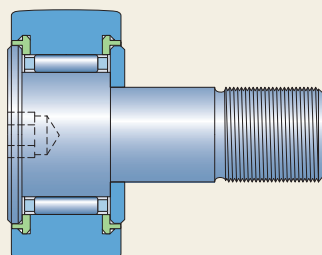

Fig. 8
- are based on double row full complement cylindrical roller bearings without an integral flange between the two roller sets (fig. 8)